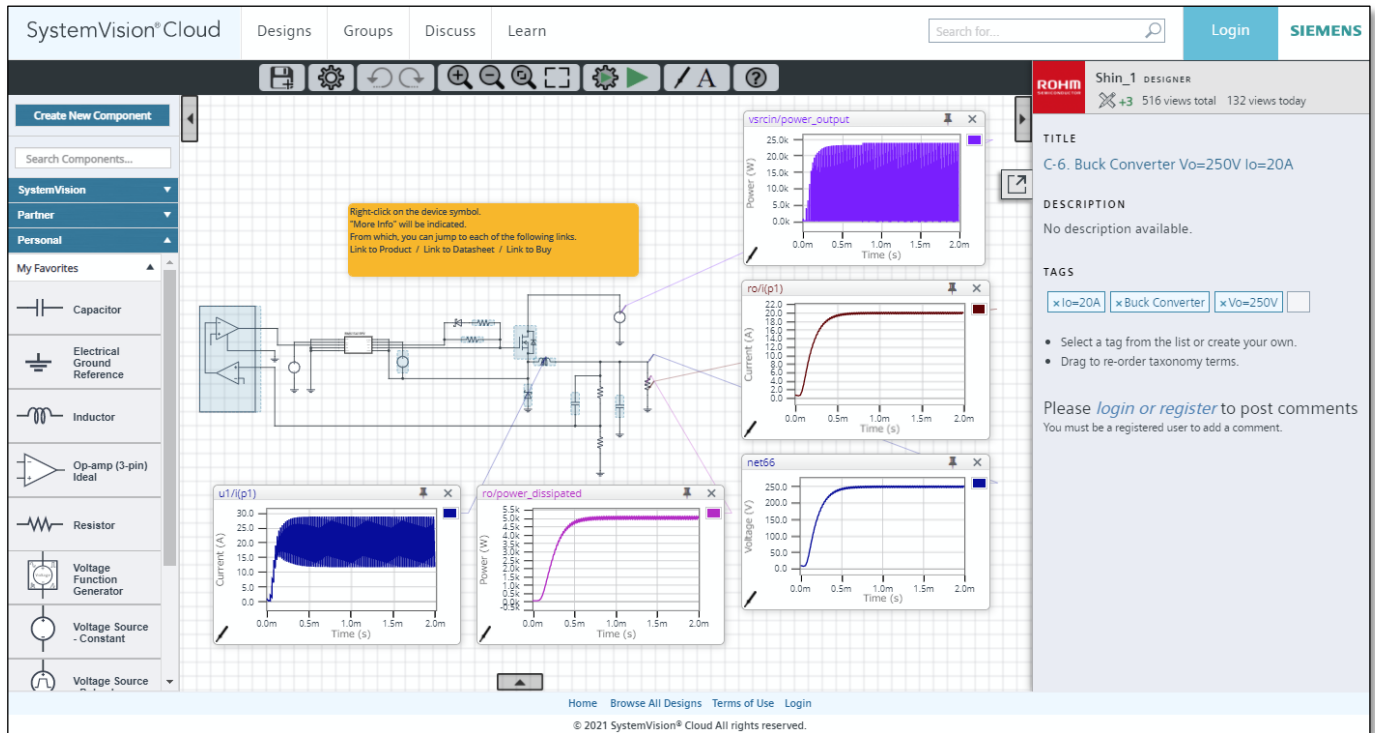

Figure 5. The exported circuit diagram is displayed in SystemVision® Cloud.
2. A new Web browser window is opened and the exported circuit diagram is displayed in SystemVision[®]Cloud (Figure 5).